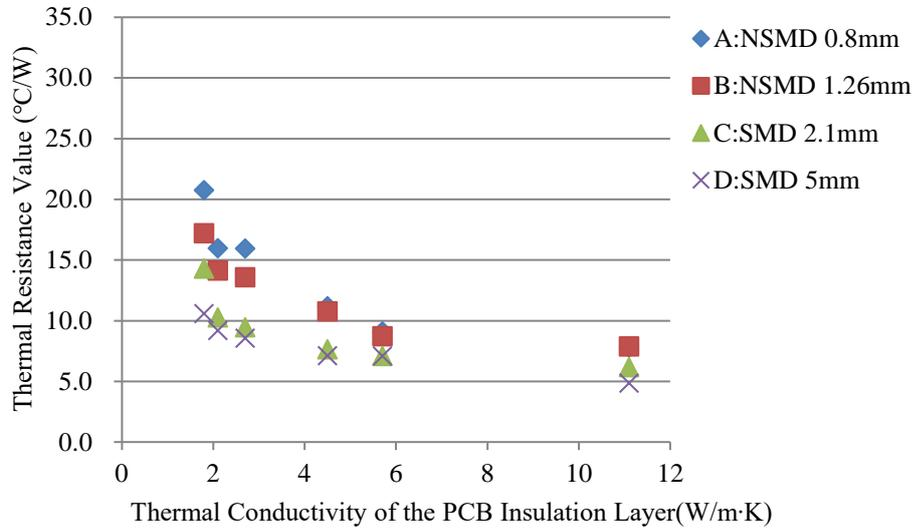

Figure11. NVSLE21A’s Thermal Resistance Values ($R_{\theta JB}$)
- Refer to Figure 11 for the thermal resistance from the LED chip to the T_B measurement point ($R_{\theta JB}$) when operating NVSLE21A LEDs (Color Rank: sm27, Color Rendering Index Rank: R8000) at $I_F=1400$ mA.